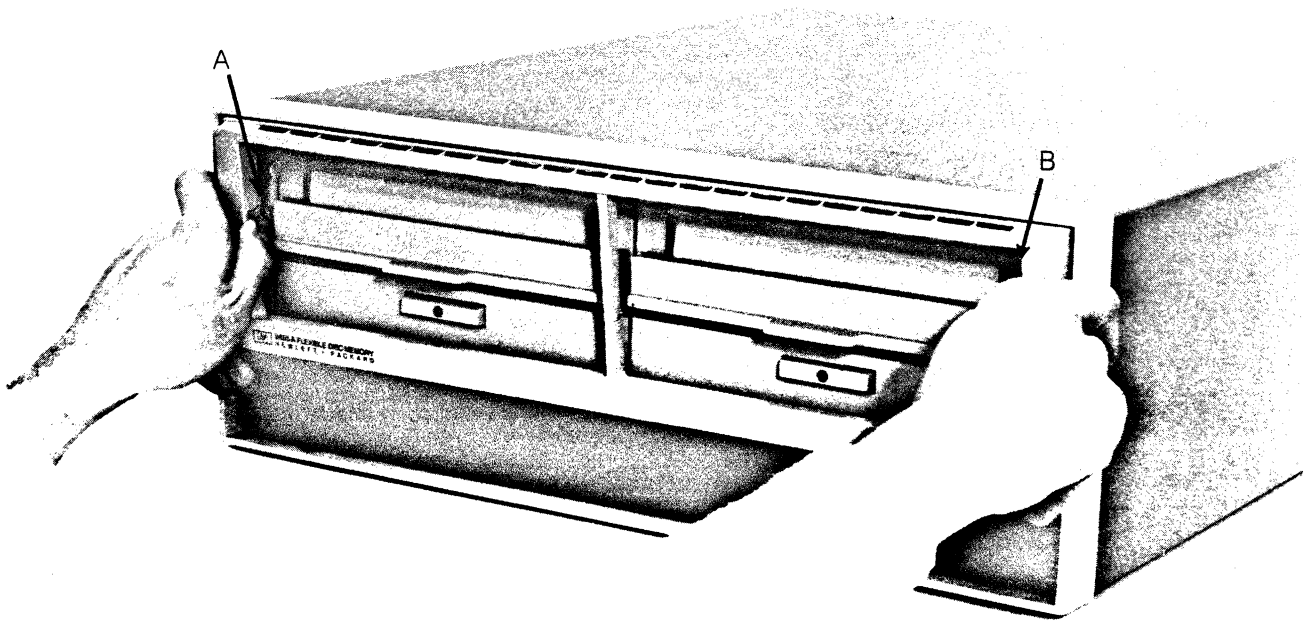

Figure C-1. Removing Front Panel
2. Open the drive doors and pull at points A and B (as shown in Figure C-1) to remove the front panel.
3. Open the drive doors and pull at points A and B (as shown in Figure C-1) to remove the front panel.